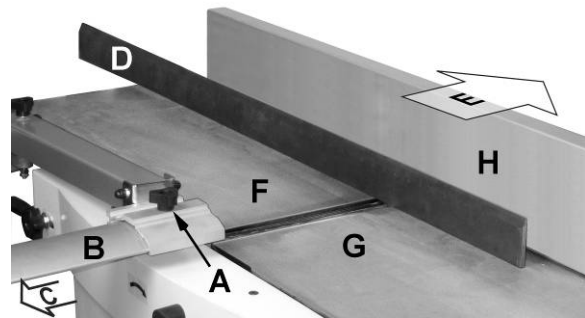

Figure 8
Referring to Figures 8 and 9:
5. Place a *straight edge* (D) across the front of the *outfeed table* (F) and extending over the *infeed table* (G). Note the position of the *infeed table* (G). Note the position of the straight edge in Figure 8 with respect to the *fence* (H).
6. Raise the *infeed table* (G) until it contacts the *straight edge* (D).
2. Remove the *cutterhead guard* (B, Fig. 8).